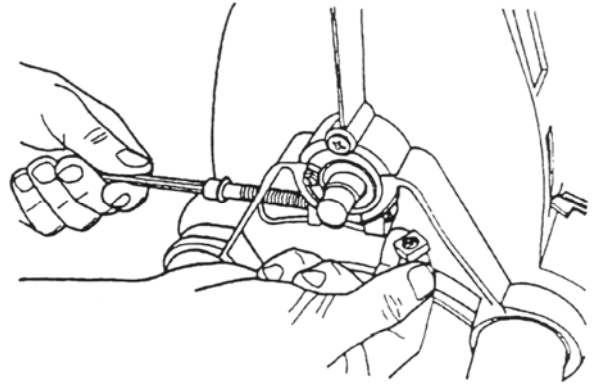
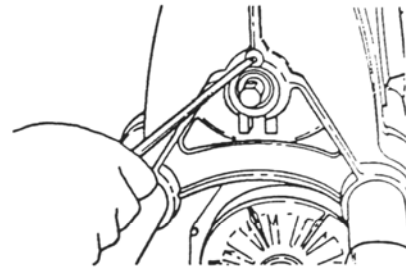

Fig. 9
Fig. 10
3. Loosen the tension on the Poly V-belt. With a 1/4" Allen wrench, remove the hex socket capscrew, lock washer, and square nut under the idler shaft See Fig. 9. This hex socket capscrew secures the eccentric bushing in the headstock. Also remove the pan head screw and washer that keep the bushing and the idler shaft from slipping out of the headstock See Fig. 10.